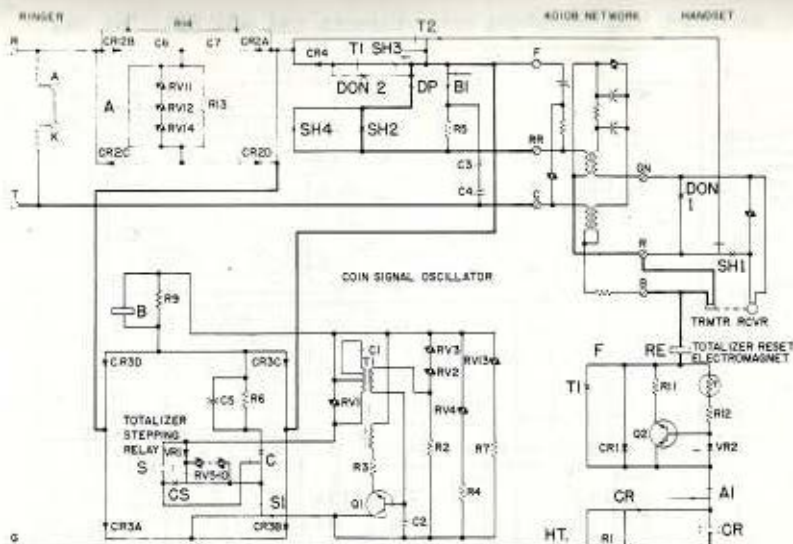

Fig. 27 - 1C1 and 2C1 Dial-Tone-First Coin Telephone Sets, Schematic
- Fig. 27 — 1C1 and 2C1 Dial-Tone First Coin Telephone Sets, Schematic